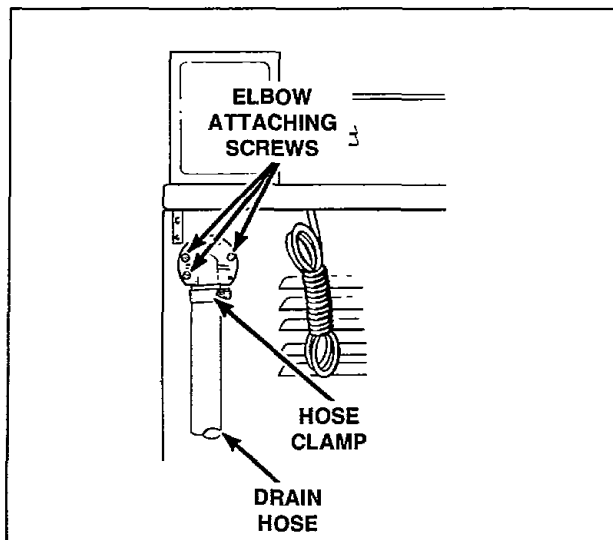

Figure 10
9. DRAIN HOSE ELBOW (Refer to *Figure 10*)